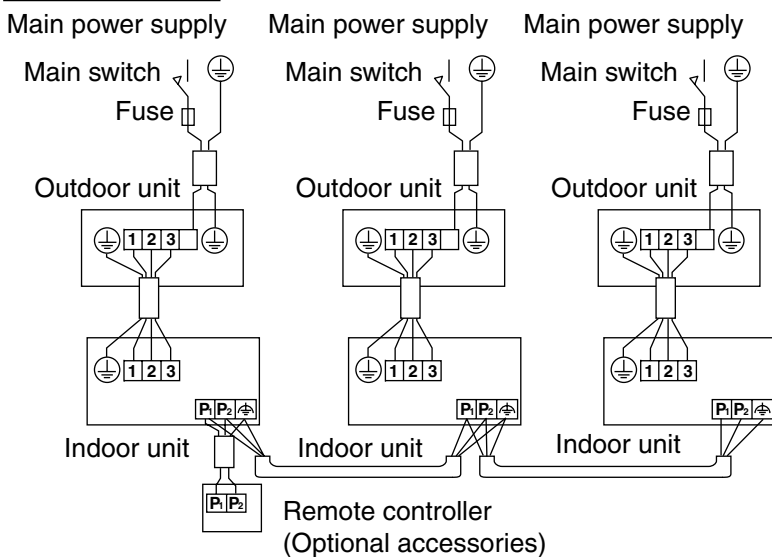

Fig. 27
- **Group control** : 1 remote controller controls up to 16 indoor units. (All indoor units operate according to the remote controller) (Refer to Fig. 27)